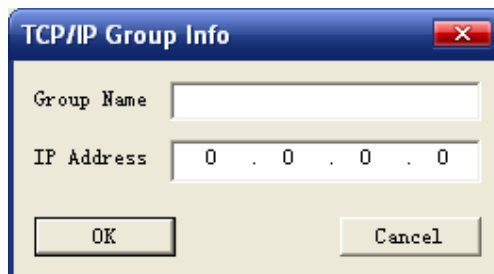

Fig2.64
2. Set the IP address. Click **Add Group...** button, it will display a dialog box to set the IP address as fig2.64. In dialog box input the group name and IP address, then click 'OK' button to confirm. Then the group's name and IP address ("Name<=>IP address") will be displayed in "IP address settings" window.